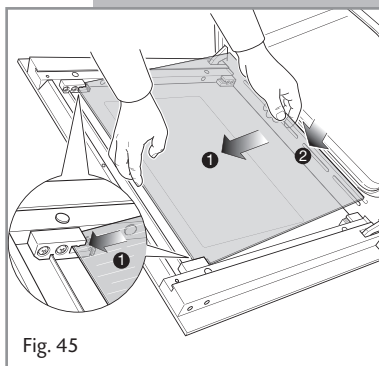
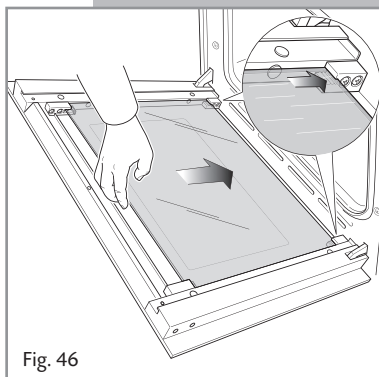

Fig. 45
Fig. 46
- Gently insert the top edge of the pane into the top clamps (arrow 1 in fig. 45), then lower the pane and insert the bottom edge into the bottom clamps (arrow 2 in fig. 45); and then slide the pane into position (fig. 46).